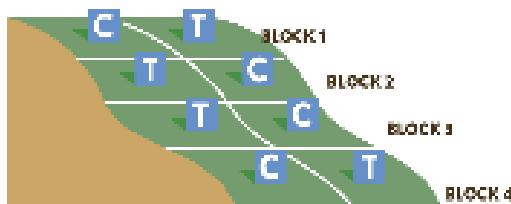

Figure 5a
- Figure 5a: On a slope, for example, each whole block should occupy about the same elevation. Treatments are randomized and run across the slope within each block.